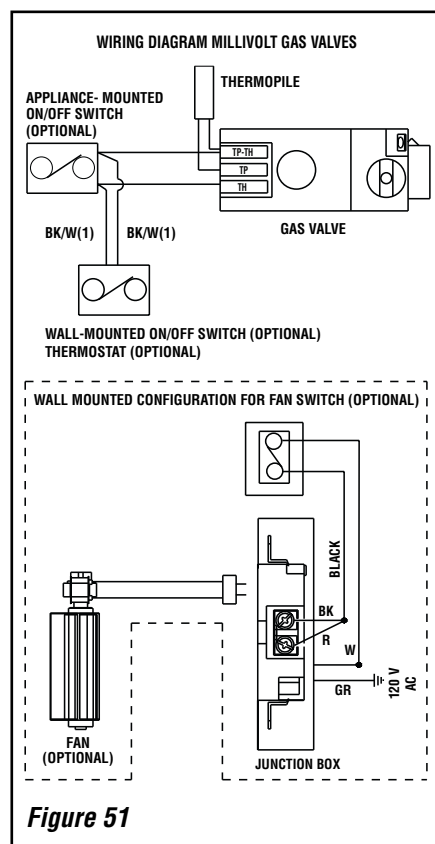

Figure 51
A. Millivolt Wiring (See Figure 51) –
Install Optional Control Switch (OFF/ON wall switch, wall thermostat or remote control receiver). Install snap bushing (on brown wall switch wire) into control switch knock-out in side panel (see **Figures 17 through 20 and 53**). Wire the optional control switch within the millivolt control circuit (as shown in **Figure 51**) using the 15 feet of brown 2-conductor wire supplied (route wires through the snap bushing to the optional control switch). Mount the optional control switch or wall thermostat in a convenient location on a wall near the fireplace.
3. Wire and install the outlet receptacle to junction box, then install into the chosen corner of the control compartment as shown in **Figures 51, 52 and 54**.